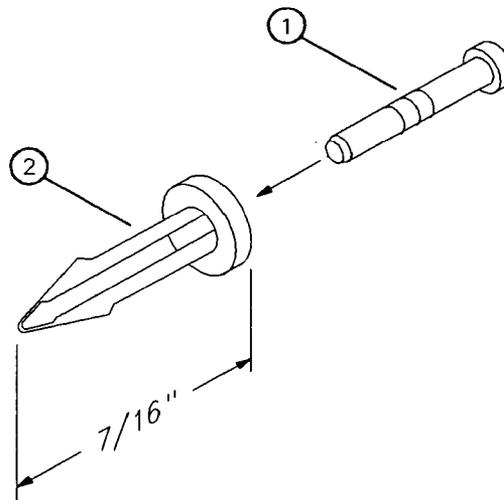

Figure 3-15. BT101 Battery Replacement
2. Remove the center pin (1) from the fastener (2) securing the nylon insulator to the A16 assembly. See Figure 3-15.